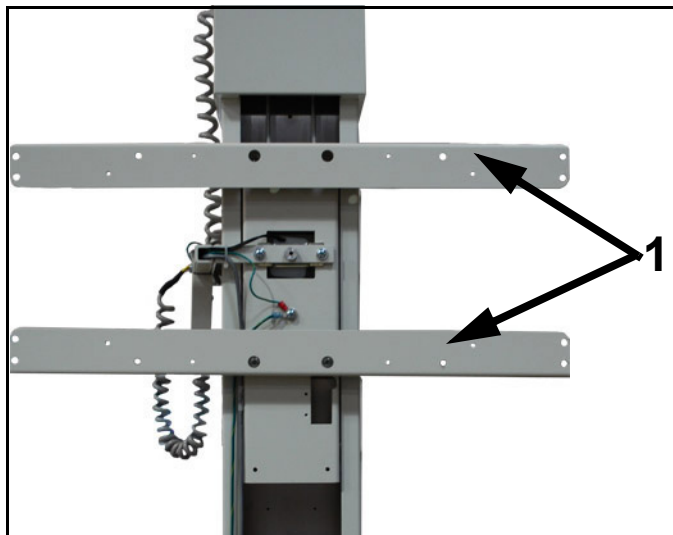

Figure 2-11. Bucky Mounting Bars K-805
- 11 Attach the bucky mounting bars (1 in Figure 2-11) on the vertical carriage as shown.